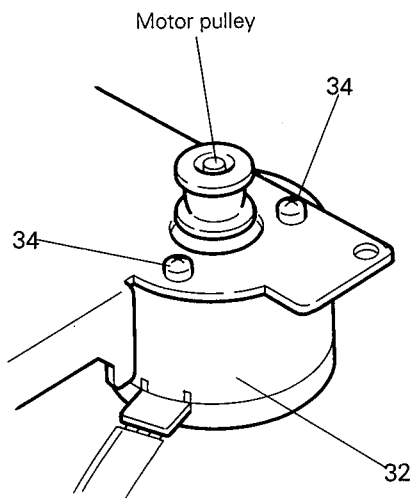

Fig. 5-45
5. Remove two screws (34) retaining the capstan motor (32) from the FR bracket assembly. (Fig. 5-45)